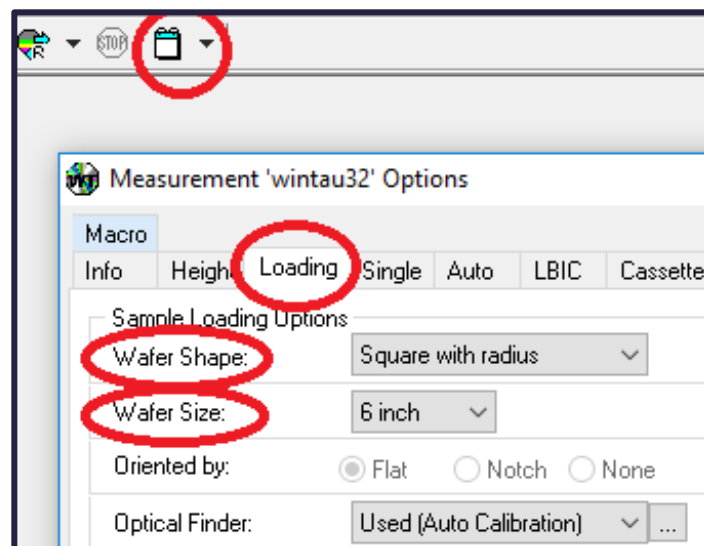

Figure. 3
- a. In "Loading" option, set "Wafer Shape" and "Wafer Size" as per your sample requirement. (Figure. 3)